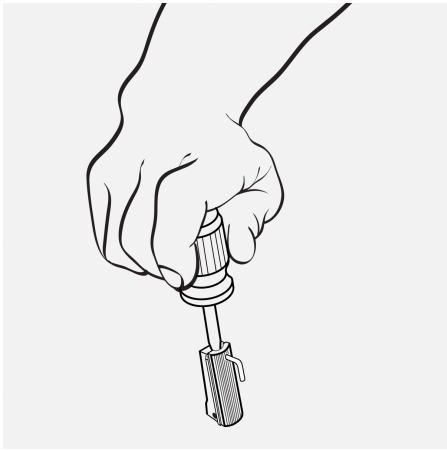

Figure 15-1
2. With a suitable punch, depress the ILS™ spring cap and hold it down. (Figure 15-1)